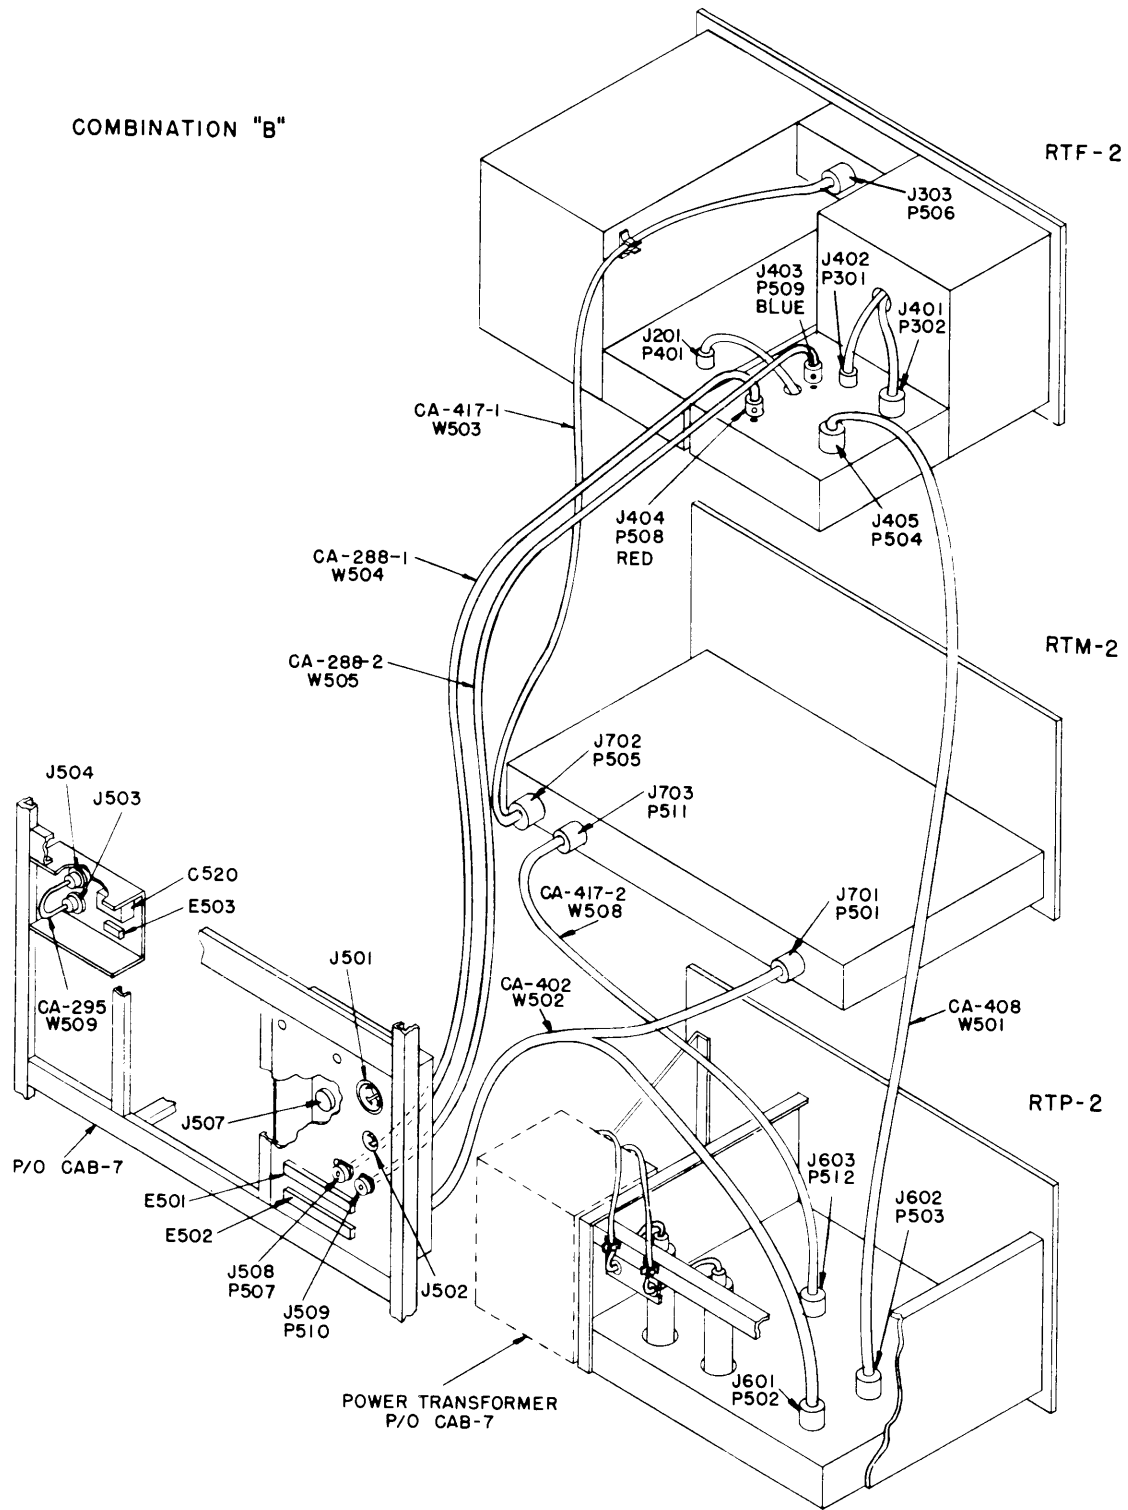
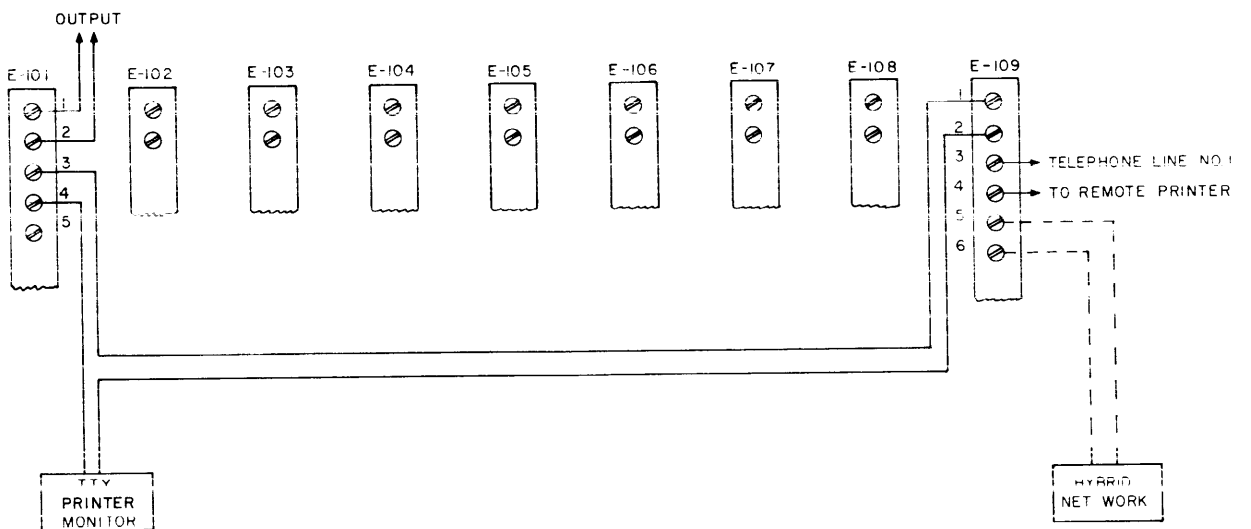

Figure 2-5. Cabling Diagram, GPT-750-B2
Figure 2-7. Remote Printer Connection
g. Assemble the GPT-750-B2 as shown in figure 2-5. Check cabling for correct positioning, and correct jack and plug numbers.
j. Connect the telephone lines and teletype machines to the rear terminals of the CPP-4 as shown in figure 2-5. If remote printer operation is required, see figure 2-7. When all patch cords are removed, telephone line 2 is connected to the hybrid unit. The other lines are not directly connected to the system but are terminated at the CPP-4. Connection may be achieved by use of patch cords.